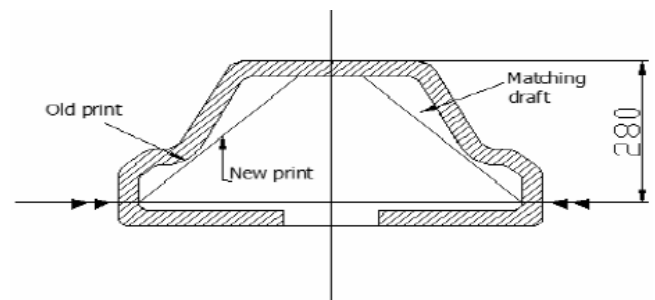

Fig. 17
2.4.3 Casting configuration irregular shape on opening side, here print matching difficult, resulting in sand crush/metal leak. Hence, design simple print, also matching draft, to avoid excessive matching stock (Fig. 17).